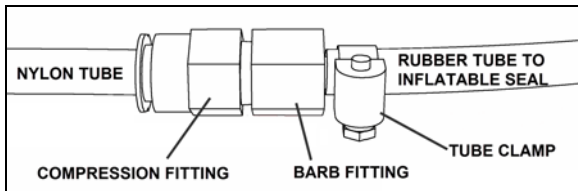

FIGURE 35: TYPICAL INFLATABLE SEAL AIR INLET
2. Unplug the nylon tubing from the compression fitting (Figure 35).
8. Connect the nylon tubing back on the fitting. (Figure 35).